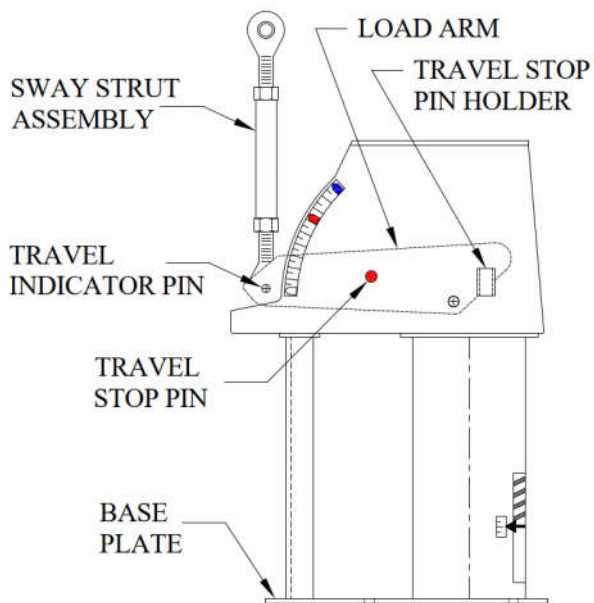

Figure 9: 100-F (Layout-A) With Sway Strut
2. Attach a load coupling (sway strut) to the piping, then to the constant's load arm (figure 9).